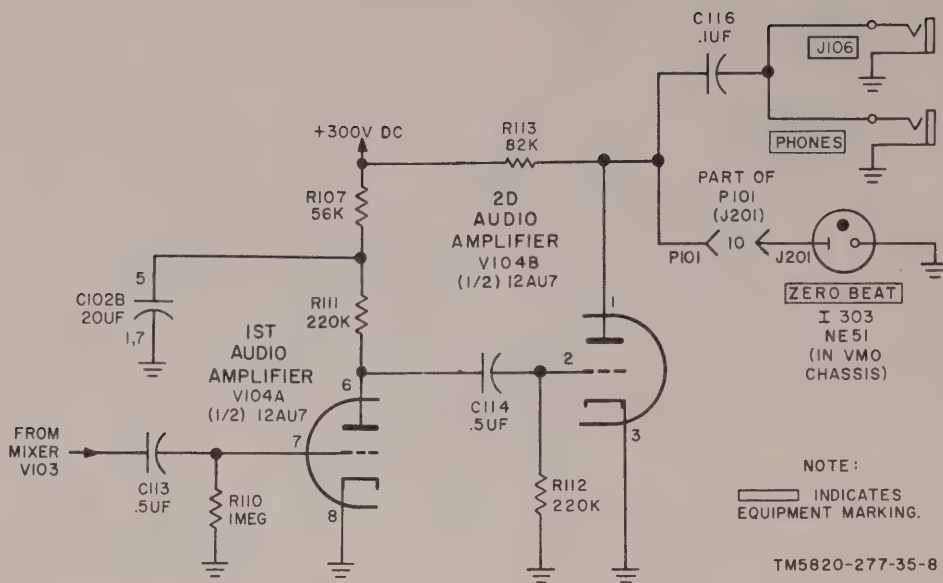

Figure 10. First and second audio amplifiers, schematic diagram.
a. Normal tuning is accomplished by the MASTER OSCILLATOR FREQUENCY control which adjusts ganged tuning capacitors C301 and C302. The CALIBRATE control adjusts the inductance of L301. Trimmer capacitor C303 (fig. 10 and 11, TM 11-5820-277-12) is used during initial adjustments (para 15, TM 11-5820-277-12) for balancing the amount of calibration required between the low and high ends of the frequency range.
11. First and Second Audio Amplifiers (fig. 10)